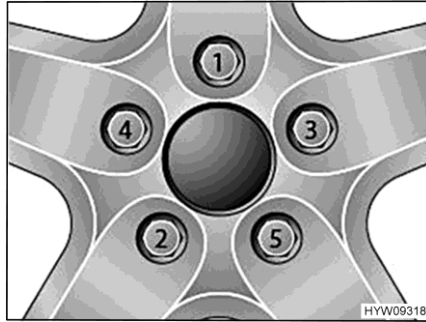

Fig. 113 Tightening the wheel nuts or wheel bolts cross-wise
- Tighten the wheel nuts or wheel bolts in the order shown in Fig. 113. In order to do this, use a torque wrench and comply with the specified tightening torque (see section 14.5).
- Check regularly that the wheel nuts or wheel bolts are firmly seated. Re-tighten the wheel nuts or wheel bolts of a changed wheel after 50 km (30 miles). While doing so, proceed in the order shown in Fig. 113.
- When using new or newly painted rims, re-tighten the wheel nuts or wheel bolts once again after approx. 1,000 to 5000 km (600 miles to 3,000 miles). While doing so, proceed in the order shown in Fig. 113.